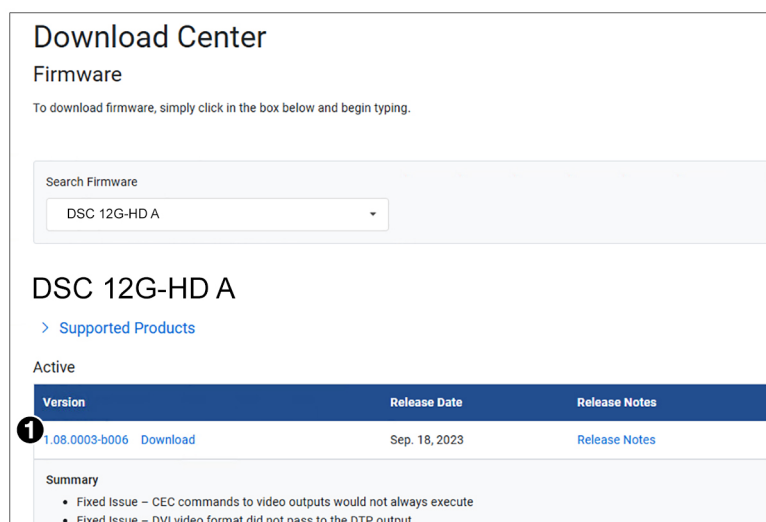

Figure 43. Download Link
5. Click the link to the active firmware version (see figure 43, ①).